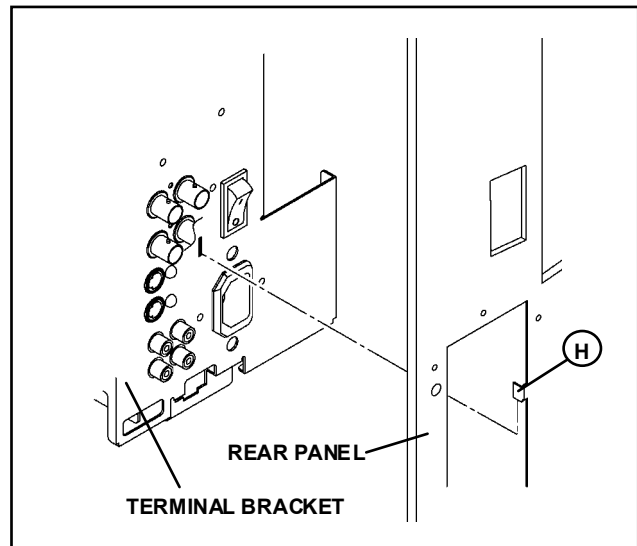

Fig.1
1. Remove the 8 screws marked (B) .
2. Remove the screw marked (C) attached the FBT.
3. Remove the screw marked (D) attached the SIGNAL PWB with the terminal bracket.
4. Remove the 5 screws marked (E) attached the terminals with the terminal bracket.
5. Remove the screw marked (F) attached the terminal bracket with the chassis base.
6. Remove the 2 hexagonal screws marked (G) attached the D-SUB terminal with the terminal bracket.
7. As shown in Fig. 1, lift the rear panel and remove the claw marked (H) from the terminal bracket.
2) The SET-UP MENU screen (Fig. 1) will be displayed.
(5) Check and set MENU items